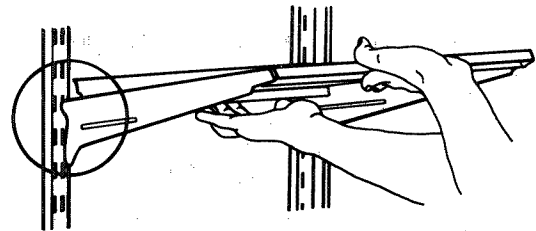

Figure 30
- Insert metal hooks at back of shelf into desired slot in metal track on back wall of freezer. See Figure 30.